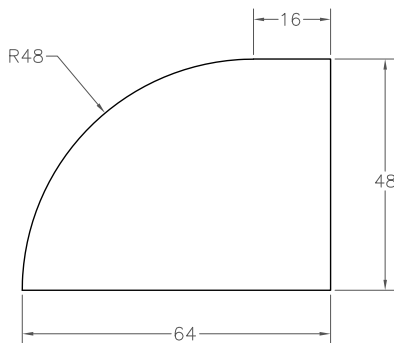

Figure 26-122 The region before extrusion
19. Draw the profile shown in Figure 26-122 at any place in the drawing area and then convert it into a region.